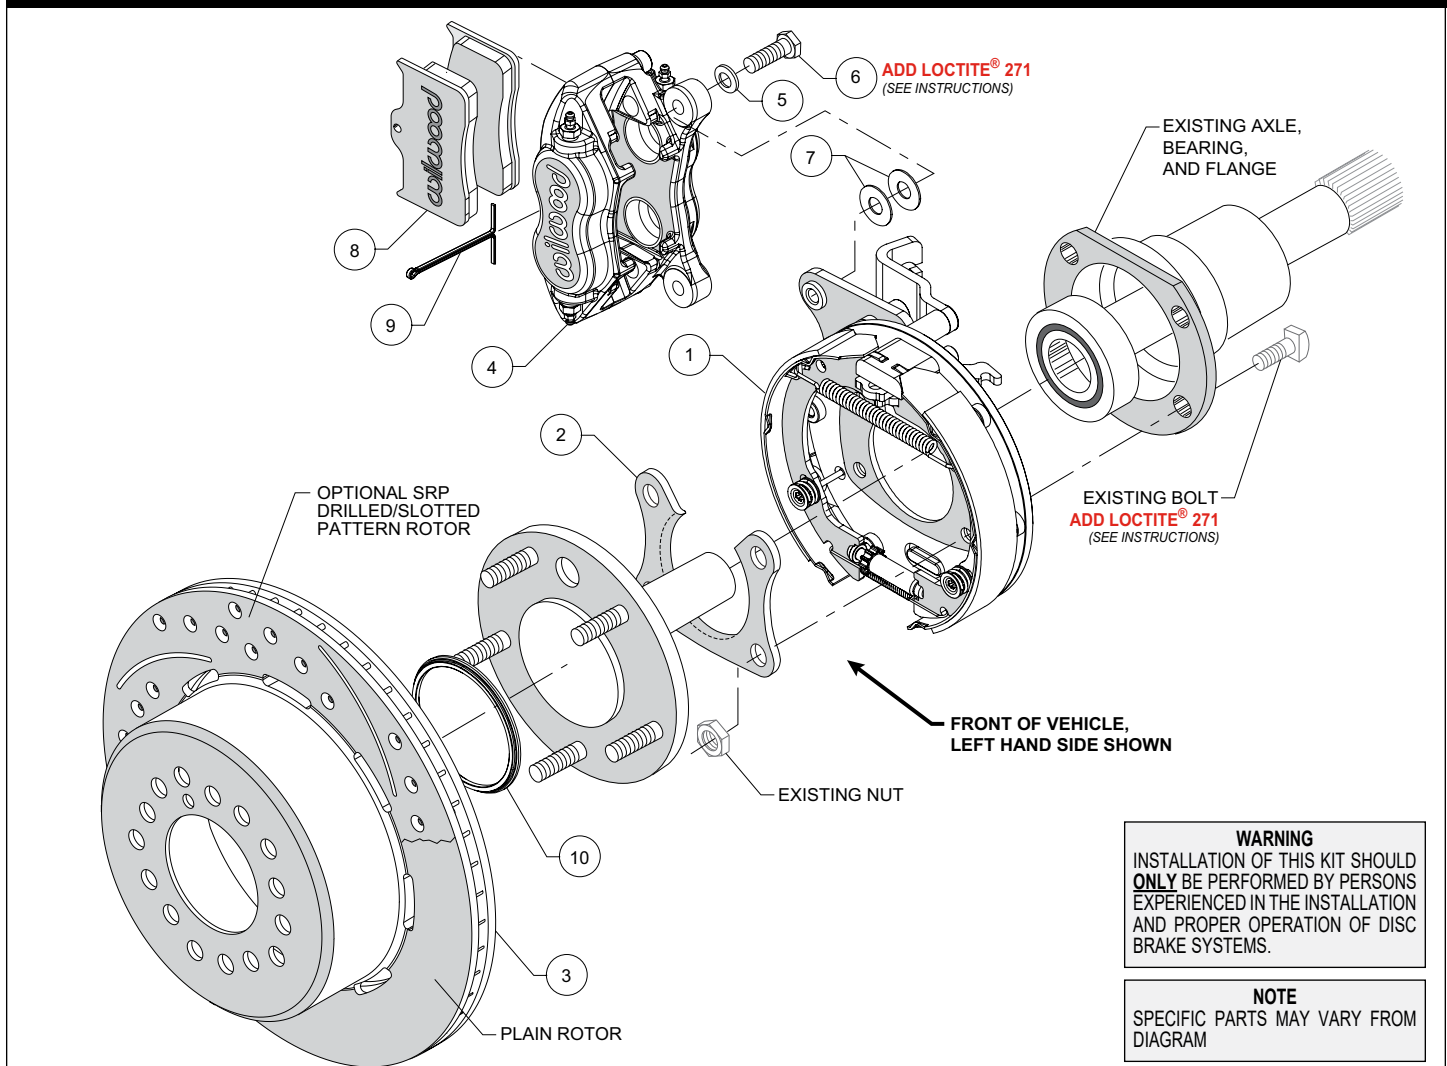
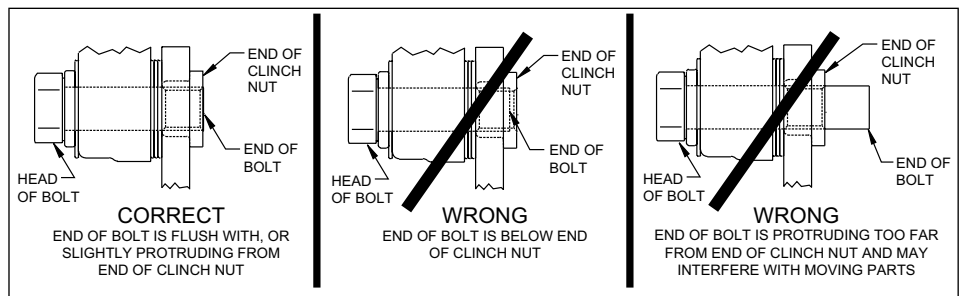

Figure 1. Typical Installation Configuration
Figure 5. Clinch Nut Engagement Diagram
**Assembly Instructions** (numbers in parenthesis refer to the parts list, and Figure 1 on the preceding pages): **CAUTION:** All mounting bolts must fully engage clinch nuts. Be sure to check that all bolts are either flush or protruding through flanged side of clinch nut after shimming, Figure 5.
- Orient the bracket assembly (1) as shown in Figure 1 and Photo 1 and slide it onto the axle. Insert the axle and bracket into the axle housing. Ensure that the bracket assembly backing plate fits flush against the axle housing flange.
- Install the bearing retainer (2) with the opening pointing upward and the lip facing inward (toward the bearing), as shown in Figures 1 and 4, and Photo 2. Secure retainer and bracket assembly to the axle housing flange using the Original Equipment Manufacturer (OEM) bolts and nuts, Figure 1. Apply red *Loctite*® 271 to the OEM bolt threads and torque to OEM specifications.
•Slide the rotor registration adapter (10) onto the axle register on the axle flange with the smaller O.D. facing toward the rotor/hat (3), Photo 3. Align the correct hole pattern in the rotor/hat with the stud pattern on the axle flange and slide into place, Figure 1 and Photo 4. **NOTE:** The rotor/hat must fit flush against the axle flange or excessive rotor run out may result. Install three lug nuts (finger tight) to keep the rotor/hat assembly in place while continuing with the installation. **NOTE:** Some OEM and after market axles come with stud sizes larger than 0.50" diameter. Verify stud size and have a qualified machine shop drill the bolt circle of the hat/rotor to the correct stud size, if necessary.
•**NOTE:** Please reference the caution statement at the beginning of the assembly instructions. Mount the caliper (4) onto the caliper mounting bracket (1) using bolts (6) and washers (5), as shown in Figure 1. Initially place two .035" thick shims (7) on each bolt between the caliper and the bracket, Photo 5. Temporarily tighten the mounting bolts and view the rotor (3) through the top opening of the caliper. The rotor should be centered in the caliper, Photo 6. If not, adjust by adding or subtracting shims between the bracket and the caliper. Always use the same amount of shims on each of the two mounting bolts. **NOTE:** The end of each bolt must be flush with or slightly protruding from the head of the clinch nut, as shown in Figure 5. If necessary place spare shims between washer (5) and caliper mounting ear to achieve the proper clinch nut engagement. Once the caliper alignment and clinch nut engagement are correct, remove the bolts one at a time, apply red Loctite® 271 to bolt threads, and torque to 40 ft-lb.